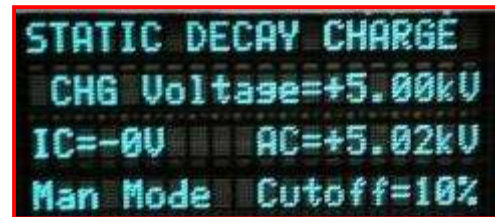

Figure 6-4: Sample with no IC and able to conduct charge
- c. No Initial Charge is detected (**IC=0V**) as shown in Figure 5-9. When the charging voltage is applied, over 3.00kV has been indicated to be accepted. In this case it was accepted very quickly and stabilized after 5 seconds. This type of sample was able to conduct on a charge and, therefore, would be capable of dissipating charge when grounded as shown in Figure 6-4. This example is that of a “dog bone” test sample with conductive material that indicates a fully accepted charge of 3.74 kV. The second display is for a sample that also exhibits static dissipative characteristic, but was a full size sample.